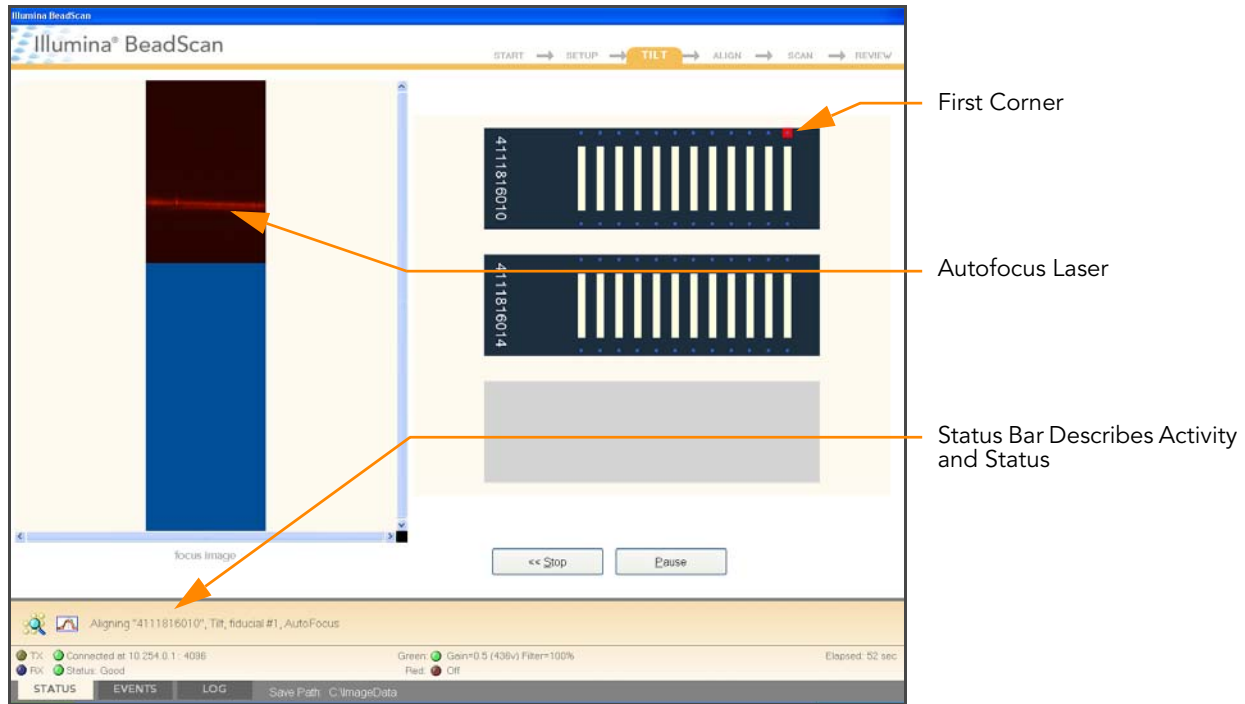

Figure 50 BeadArray Reader Tilt Process
1. **Tilt**—The BeadArray Reader Autofocus feature records the Z-position (height) of three corners of the BeadChip to determine its current tilt, and adjusts the BeadChip until it is flat (Figure 50).